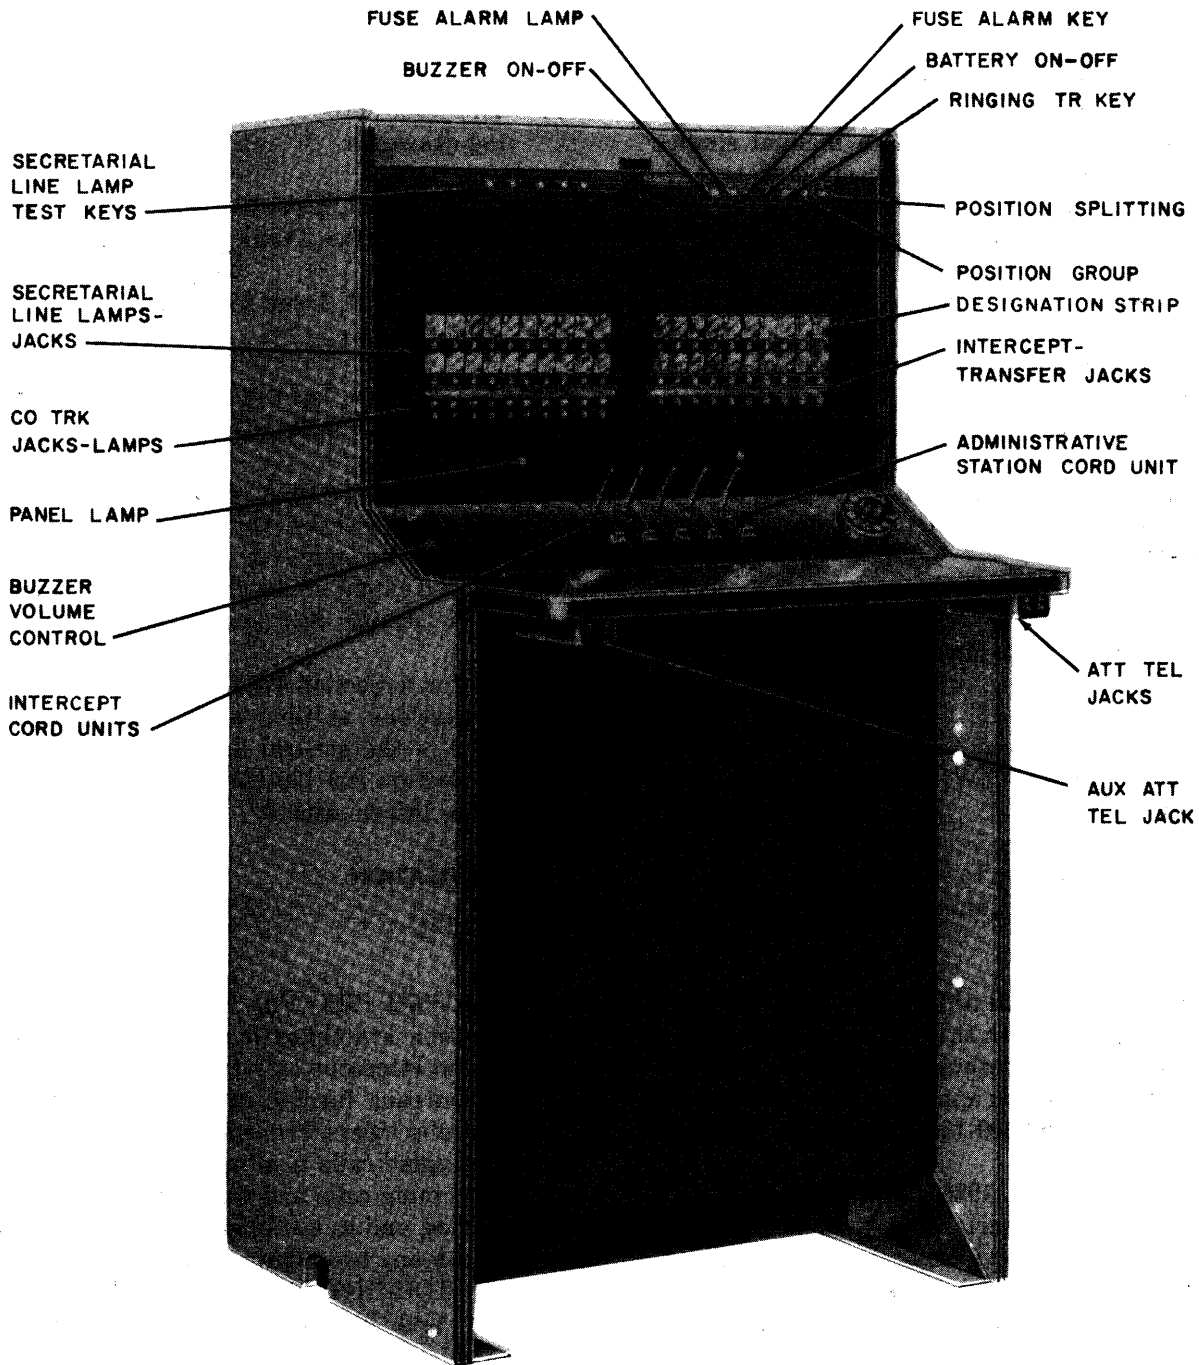

Fig. 1—557B PBX Switchboard—Front View
2.01 The 557B PBX, Fig. 1, is a manual single-position switchboard designed to serve primarily as an intercept-only-type secretarial switchboard at bureaus furnishing answering service to telephone subscribers. Provision is also made to complete intercepted calls to administrative stations, to answer incoming calls and make outgoing calls to a central office, and to establish a conference connection between any two administrative stations. A rotary or TOUCH-TONE calling dial, ordered separately and installed locally, is required for
2.17 A manual conference circuit may be provided to connect two administrative stations together, using two station cords. The equipment and apparatus for this circuit are ordered separately and installed locally per T65731-31, Fig. 1. Space is provided on the front of the framework behind the front panel for mounting the coils and capacitors. Spare jacks in the trunk strip or intercept transfer strips are available for the jack appearances. Wiring for the circuit is performed locally.